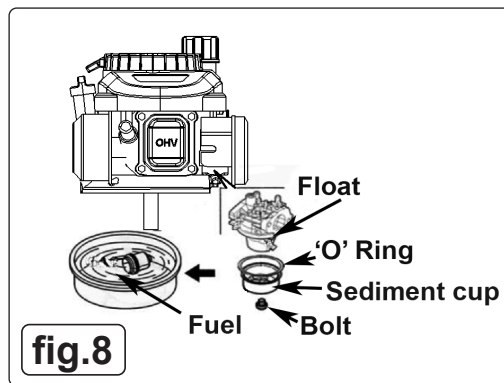

fig.8
7.6.1. To clean the carburettor (fig.8):
If fuel in the engine has not been treated with a fuel stabilizer, it must be drained into an approved container. Run the engine until it stops from lack of fuel. Remove the hex screw from the carburettor (fig.8) then drain the fuel from the tank, carburettor, and tube. Screw the carburettor drain hex screw back once the fuel has been completely drained.